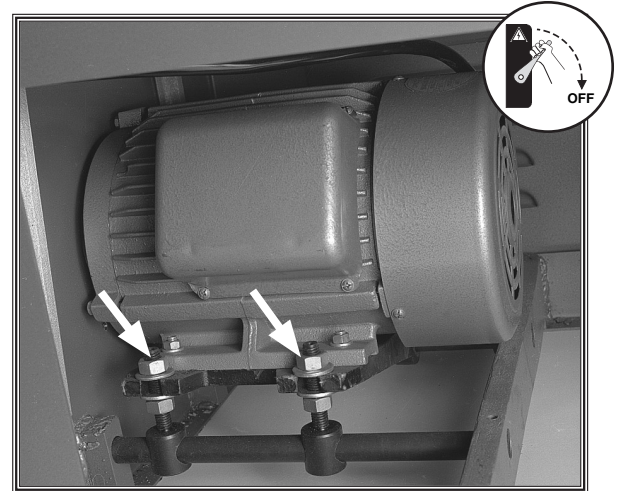

Figure 13. Fasteners needed to be loosened for V-belt replacement.
3. Using a 19mm wrench, loosen the fasteners on the tension rods shown in **Figure 13**.